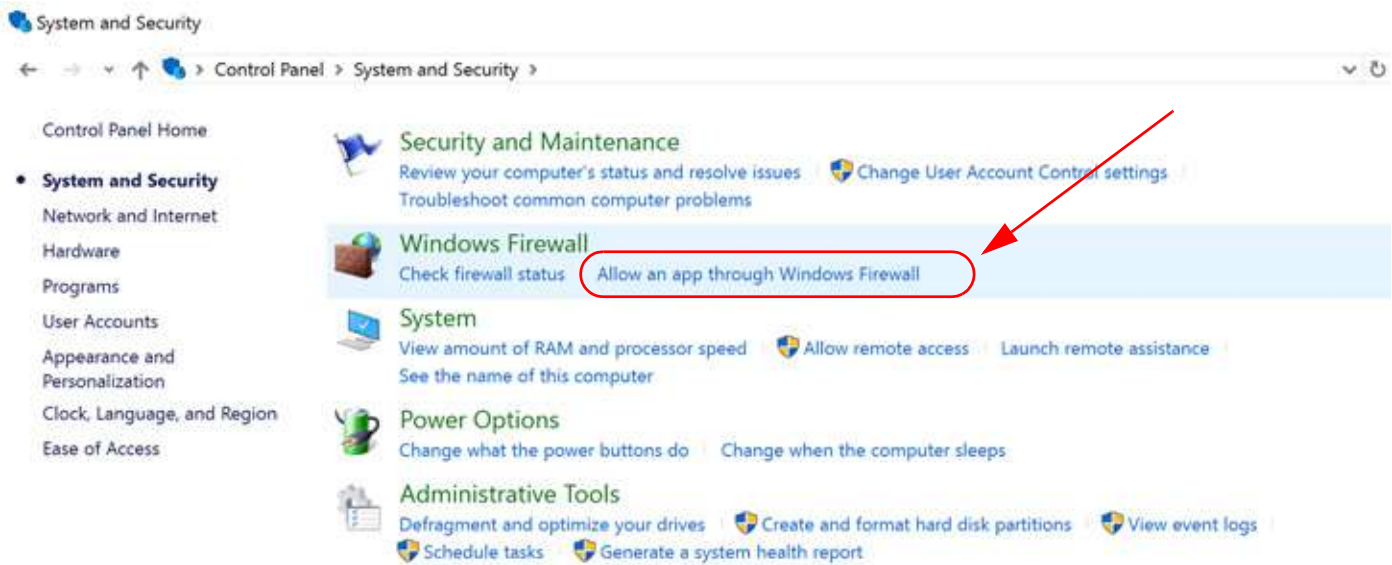

Figure 3.3: Windows Server 2016/2019: Allow an App Through Windows Firewall
3. From the Control Panel -> System and Security Screen, select “Allow an App through Windows Firewall”. See Figure 3.3.